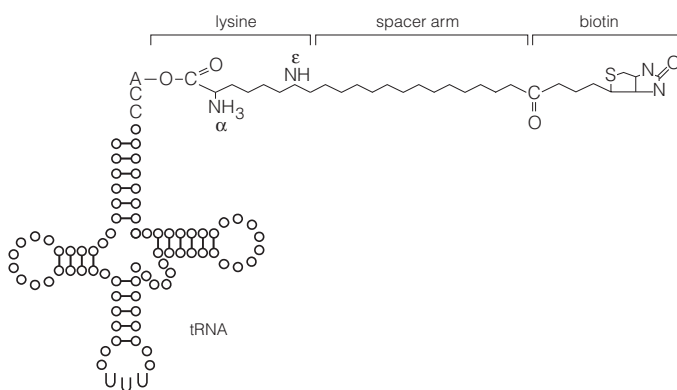

Figure 1. Structure of Transcend™ tRNA.
The Transcend™ Non-Radioactive Translation Detection Systems allow non-radioactive detection of proteins synthesized in vitro. Using these systems, biotinylated lysine residues are incorporated into nascent proteins during translation, eliminating the need for labeling with [35S]methionine or other radioactive amino acids. This biotinylated lysine is added to the translation reaction as a precharged, ε-labeled biotinylated lysine-tRNA complex (Transcend™ tRNA) rather than a free amino acid (Figure 1). After SDS-PAGE and electroblotting, the biotinylated proteins can be visualized by binding
The precharged *E. coli* lysine tRNAs provided in this system have been chemically biotinylated at the ε-amino group using a modification of the methodology developed by Johnson *et al.* (1). The biotin moiety is linked to lysine by a spacer arm, which greatly facilitates detection by avidin/streptavidin reagents (Figure 1). The resulting biotinylated lysine tRNA molecule (Transcend™ tRNA) can be used in either eukaryotic or prokaryotic in vitro translation systems such as the TNT® Coupled Transcription/Translation Systems, Rabbit Reticulocyte Lysate System or *E. coli* S30 Extract System (2,3). Lysine is one of the more frequently used amino acids. On average, lysine represents 6.6% of a proteins amino acid content, whereas methionine represents only 1.7% (4).